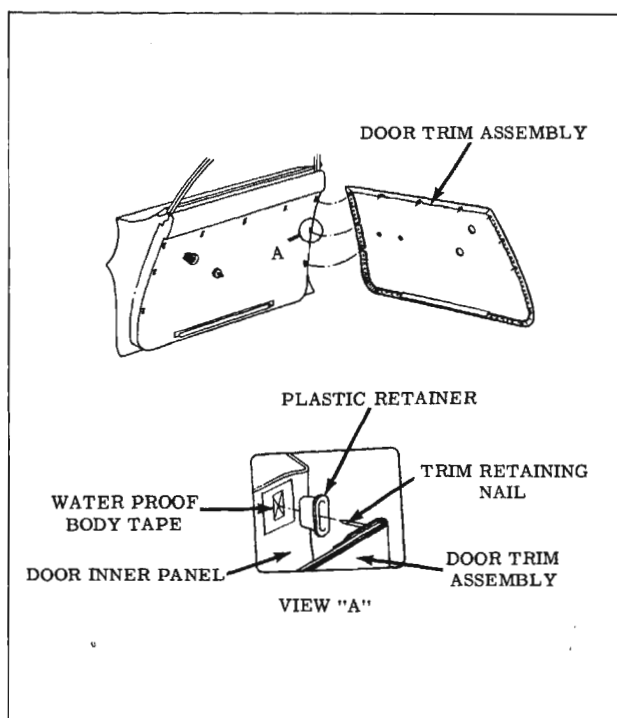

Fig. 16-236 Door Trim Installation
5. Starting at top of trim assembly, carefully insert Tool J-6335, or a suitable flat-bladed tool, between door trim assembly and door inner panel at retaining nail locations and disengage nails from retainers. (Fig. 16-236)